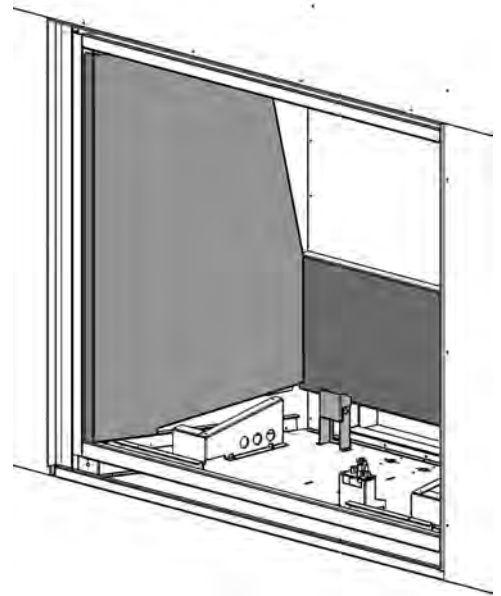

Figure 82: Rear & Left Porcelain Panels in Place.
2. Install the Left Firebox Liner Panel; it sits on the bottom front edge of the firebox (see Figure 82), a support bracket at the lower rear of the firebox, and is held in by a retainer at the top of the firebox. Adjust the panel retainers as required.